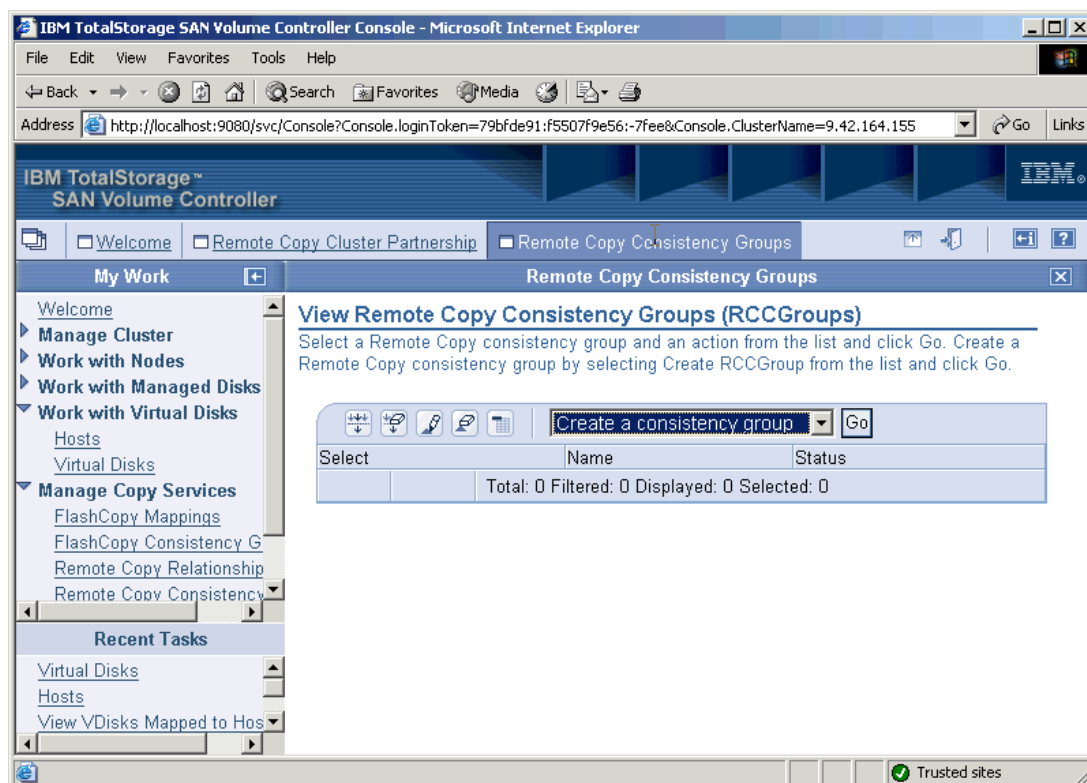

Figure 11-11 View Remote Copy Consistency Groups
1. As shown in Figure 11-11, under My Work, select **Manage Copy Services** and select **Remote Copy Consistency Groups**.